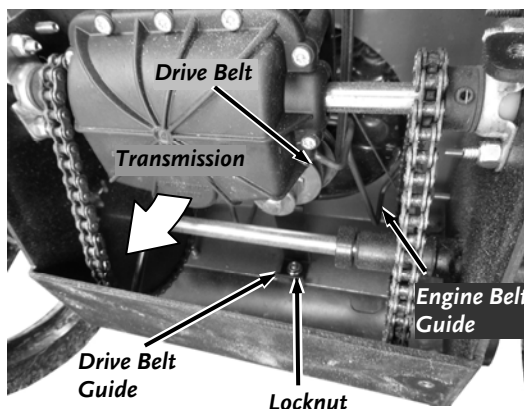

Figure 39
8. Loosen the rear Drive Belt Guide Locknut using a 7/16" Socket w/Ratchet and rotate the Guide out of the way (Figure 39).
16. Rotate the rear Drive Belt Guide into position centered behind the Engine Pulley and tighten the Locknut with a 7/16" Socket w/Ratchet (**Figure 39**).